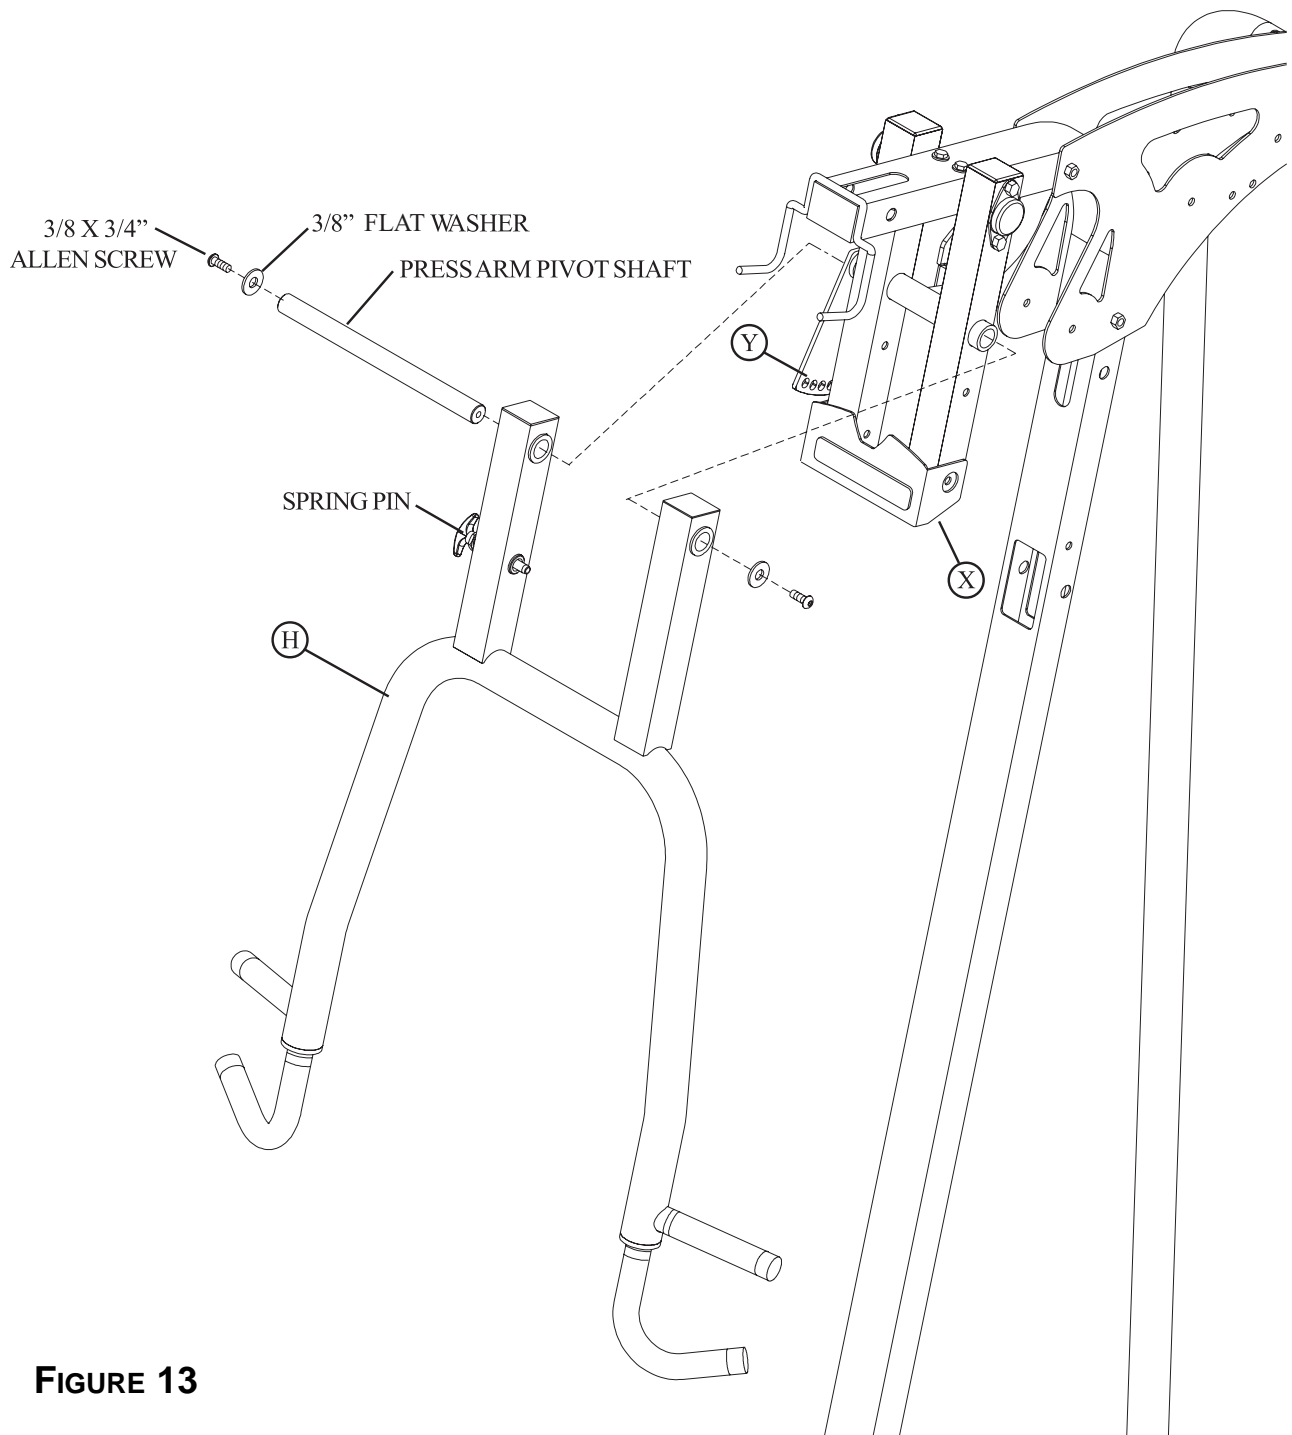

FIGURE 13
- Disassemble the PRESS ARM PIVOT SHAFT from the PRESS ARM (H) by removing the two 3/8 X 3/4" ALLEN SCREWS and two 3/8" FLAT WASHERS as shown in FIGURE 13.
- Insert the PRESS ARM PIVOT SHAFT thru the PRESS ARM (H) and the PRESS ARM SUPPORT FRAME (X) and then reassemble the 3/8 X 3/4" ALLEN SCREWS and 3/8" FLAT WASHERS to the PRESS ARM PIVOT SHAFT as shown in FIGURE 13. (**Note: Tighten this connection enough to remove excess play yet allow the PRESS ARM to rotate freely.**)
- Pull back on the SPRING PIN and rotate the PRESS ARM (H) until the SPRING PIN connects with the PRESS ARM ADJUSTMENT (Y).